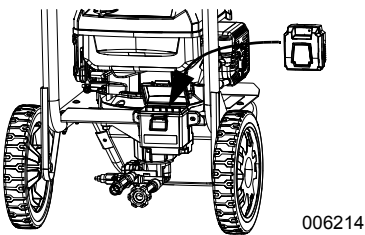

Figure 2-5. Install Battery
- See Figure 2-5 to install battery.